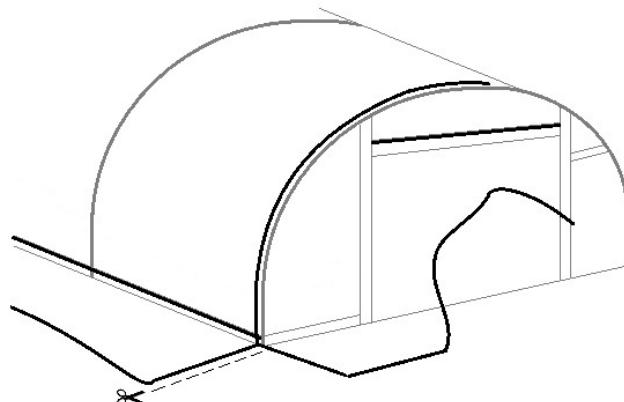

Fig111
- **STEP 3:** With just the four corners and the door frames left, it will now be necessary to cut the polythene at the corners, but ONLY below the base/side rails, to allow the cover to come smoothly around the ends (**Fig111**). It is important that the cover is cut in line with the end of the tunnel, **NOT** the length.